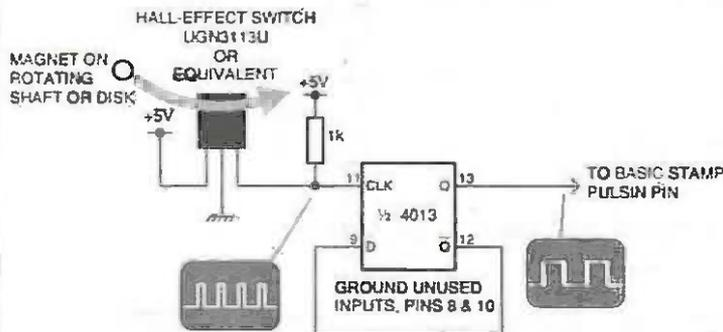

Figure 1. Timing diagram for `pulsin 7,0,w3`.
Figure 1 shows how `pulsin` works. The waveform represents an input at pin 7 that varies between ground and +5 volts (V).